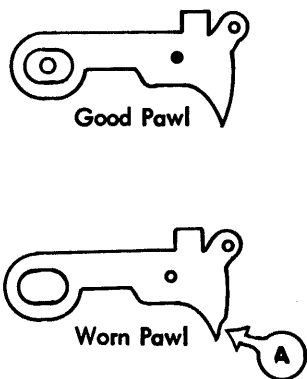

Figure 3.1
1.8 Backspace may go a full space but a worn escapement pawl will cause the carrier to skip ahead 1/2 space. See Fig. 3.1. Look for this condition under powered operation. To prevent a reoccurrence, replace the escapement pawl AND rack.